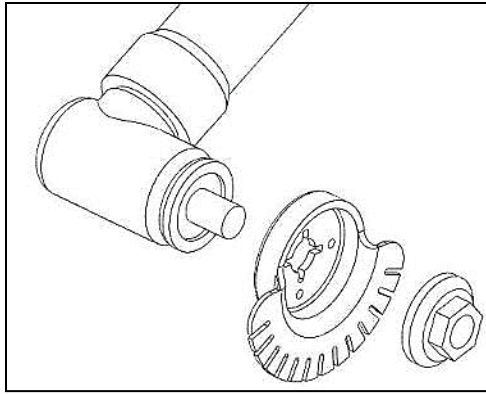

Figure 2. GFR-Disc/Blade Installation
- 3.1.2. Attach the appropriate GFR-Disc/Blade to the pneumatic oscillating saw by inserting the threaded spindle of the oscillating saw through the mounting hole in the GFR-Disc/Blade until it seats against the inner flange. Secure the GFR-Disc/Blade to the tool using the threaded outer flange nut. See **Figure 2**.